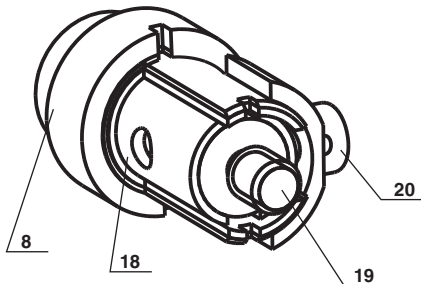

FIGURE C-5
10. Eliminate the parallax between the crosshair plane and the target plane and allow for less than 1° deflection from the parallelism between the vertical reticle crosshair line and the plane that crosses the observation line, vertical. You can achieve it by moving Item (18) with Item (19) of Subassembly (9) (reticle screw ST.01.04.000.SB). Secure this new position with Screw (20) (Figure C-5).
11. Apply sealant to mount the Control Board Cover (7). Lock the Screws (6) with primer coat.
12. Check the air-tightness of the scope with application of 2x104 Pa overpressure (0.2 atm). No pressure drop is acceptable (to inflate air use hole for Screw (21)).
13. Purge the scope internal space with nitrogen of -50°C dew point. Then lock Screw (21) with primer coat.